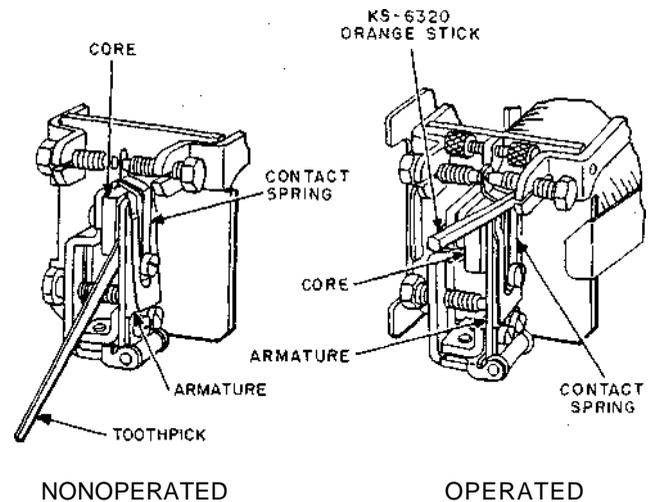

Fig. 6—Blocking L-, N-, and S-Type Relays
**3.04 L-, N-, and S-Type Relays:** Fig. 6—Block relays nonoperated by inserting the flat end of a toothpick between the core and the armature. Insert the toothpick from below the core. Block
relays operated by using a part of a KS-6320 orange stick prepared as follows. Cut approximately 1-5/8 inches from one end of the orange stick and then cut approximately 5/8 inch from the smaller end of this cutoff portion. Use the remaining 1-inch length for blocking the relay operated by inserting it between the armature and contact screw bracket, as shown in Fig. 6.